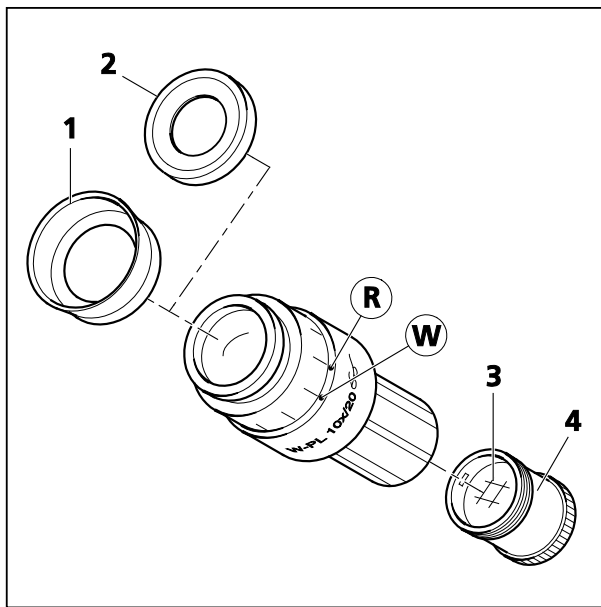

Fig. 7 Inserting the eyepiece reticle
The eyepieces have rubber protection rings to prevent the lenses from being scratched. These may be replaced by fold-over eyecups (Fig. 7/1) as desired.
- Remove the eyeglass protection rings (Fig. 7/2) from the eyepieces and attach the eyecups (Fig. 7/1).
- Unscrew the existing mount (Fig. 7/4) with eyepiece reticle from the eyepiece without exerting heavy radial pressure on the diaphragm unit in order to avoid deformation and jamming.
- Replace it with a new mount containing the eyepiece reticle (Fig. 7/3) required.
The slight image shift caused by the additional path through glass is taken into account on the diopter scale by the fact that the zero point position is indicated not by the white dot (Fig. 7/W) but by the red dot (Fig. 7/R).
In eyepiece W-PL 10x/23 Br. foc. (455043-0000-000) and E-PL 10x/20 Br. foc. (444132-9902-000) the eyepiece reticles (Fig. 7/3) have been glued to screw-in mounts for easy replacement (Fig. 7/4). Complete mounts with reticles adhered can be ordered directly from Zeiss.